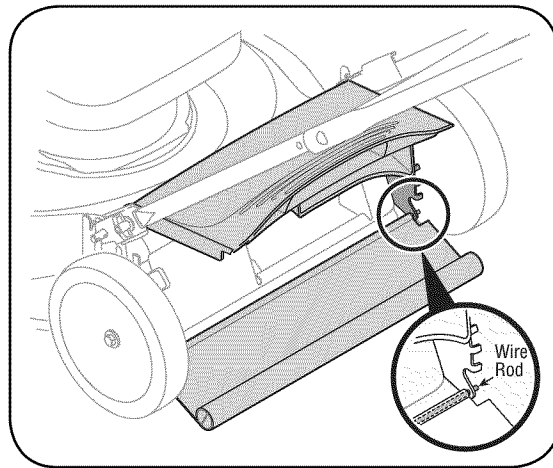

Figure 4
1. To remove rear flap, lift up the rear discharge door, and cut off the flat end of the wire rod which secures it to the deck. See Figure 4.